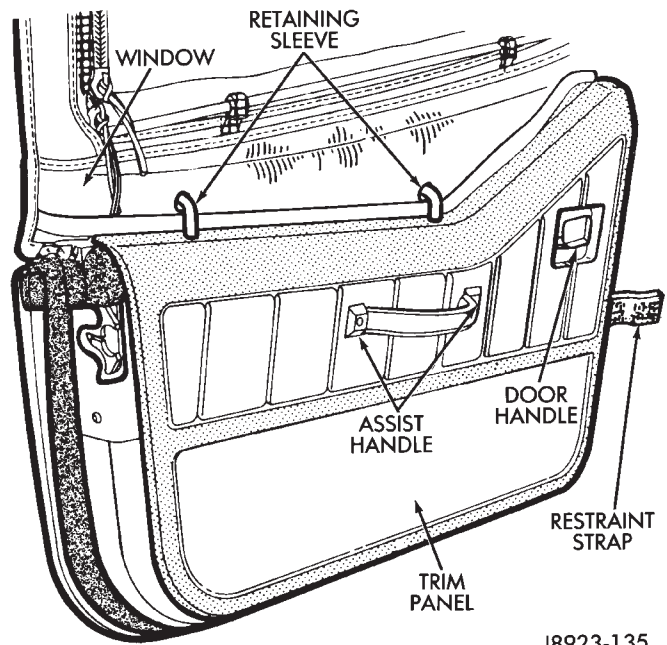

Fig. 2 Window Retaining Sleeves
- (3) Turn the window retaining sleeves 1/4 turn to the left and pull them up and out of the door (Fig. 2).
- (9) Install the window retaining sleeves (Fig. 2).